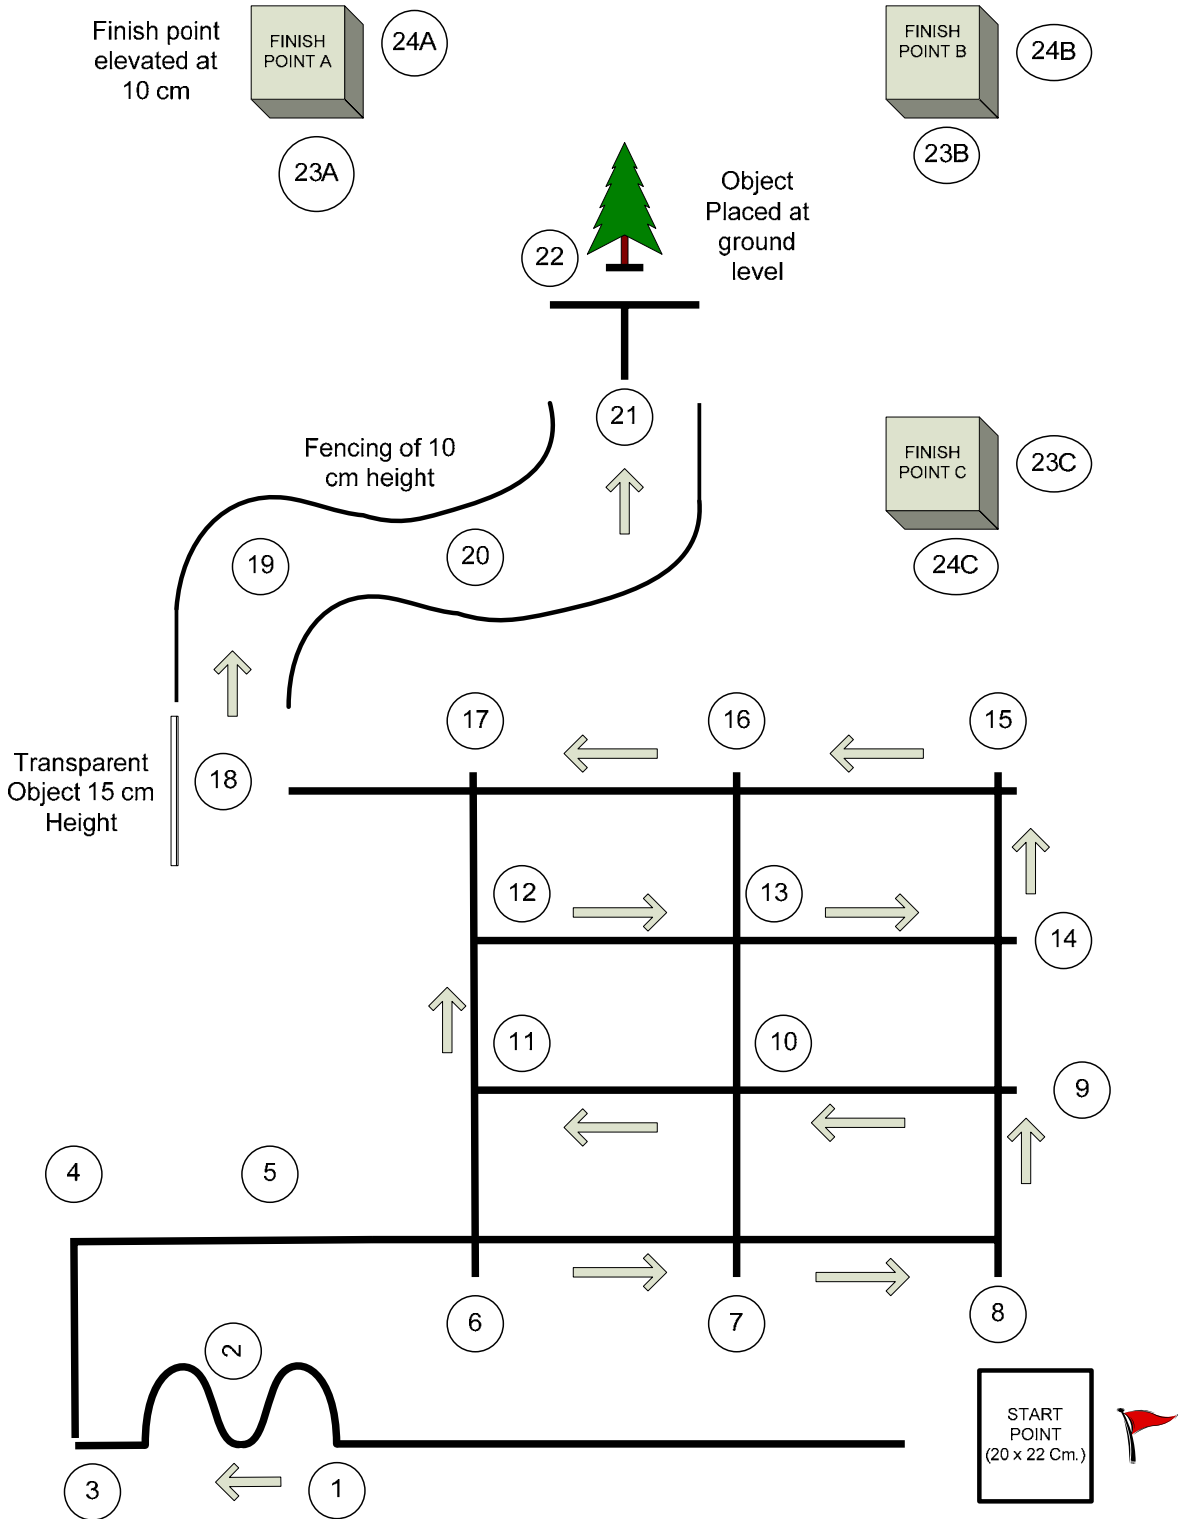

Fig. 1 – Lay out of the Test Project
- 3.1.2 The game field is shown in Fig. 1.
The scoring method is as follows (Refer Fig. 1)